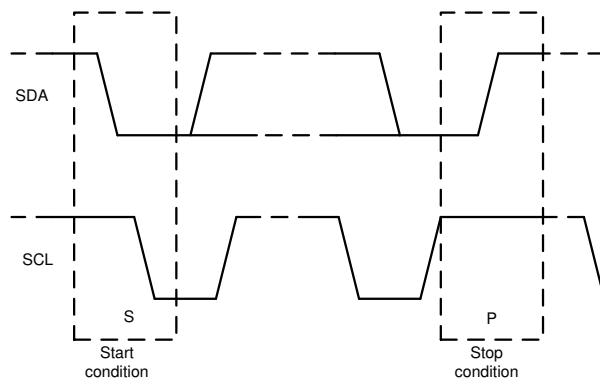

Figure 7-11. Start and Stop Conditions
1. The controller initiates data transfer by generating a start condition. Figure 7-11 shows that the start condition is when a high-to-low transition occurs on the SDA line while SCL is high. All I²C-compatible devices recognize a start condition.
4. Figure 7-11 shows that to signal the end of the data transfer, the controller generates a stop condition by pulling the SDA line from low-to-high while the SCL line is high. This action releases the bus and stops the communication link with the addressed target. All I²C-compatible devices recognize the stop condition. Upon receipt of a stop condition, the bus is released, and all target devices then wait for a start condition followed by a matching address.